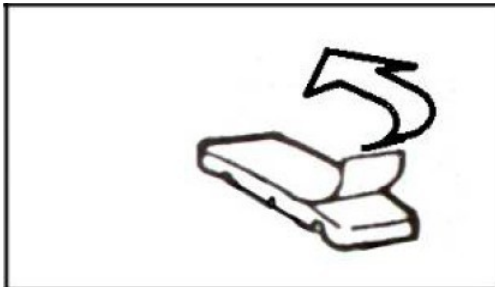
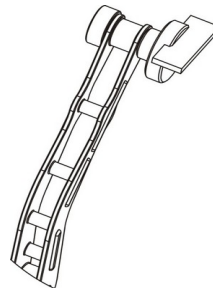

Fig.24
Fig.25
4) Apply suitable weight (Fig.24) to the gauge head (Fig.29) .
8) Apply suitable weight (Fig.24) to the gauge head (Fig.25) , pulling the internal gauge until a read 0 displayed on the window on inner side rim, fit the weight (Fig.29)